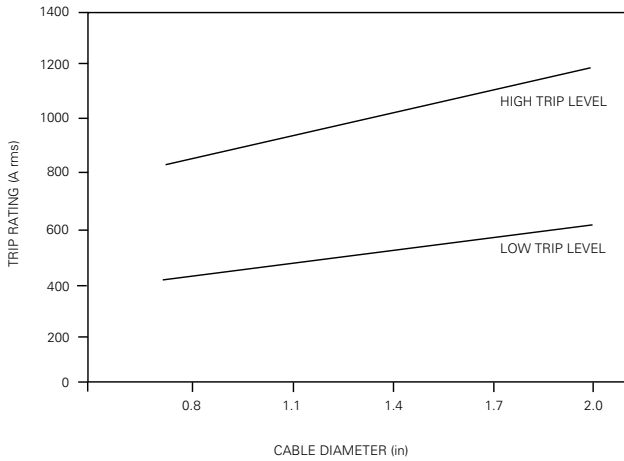

Figure 3. S.T.A.R. DR faulted circuit indicator cable diameter vs. trip value curves.
S.T.A.R. FCIs are available with either a high or a low trip rating. The very same FCI can be used on cable diameters from 0.7 (17 mm) to 2.0 inches (51 mm). Therefore, it is not necessary to specify a cable diameter when placing an order. Refer to Figure 3 for applicable trip value versus cable diameter information.
The curves will shift for various cable diameters; refer to Figure 3.